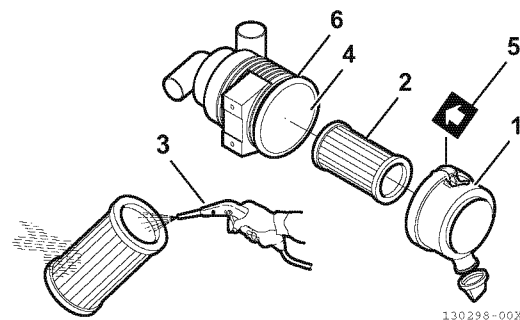
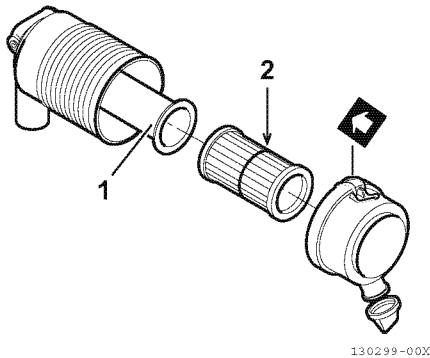

Figure 5-9
Figure 5-10
Note that a typical air cleaner is shown in **Figure 5-9** and **Figure 5-10** for illustrative purposes only.
1. Unlatch and remove the air cleaner cover (1, **Figure 5-9**).
2. Remove the element (2, **Figure 5-9**) (outer element if equipped with two elements).
3. Blow air (3, **Figure 5-9**) through the element from the inside out using 42 - 71 psi (0.29 - 0.49 MPa; 3.0 - 5.0 kgf/cm²) compressed air to remove the particulates. Use the lowest possible air pressure to remove the dust without damaging the element.
4. If the air cleaner is equipped with a double element, only remove and replace the inner element (1, **Figure 5-10**) if the engine lacks power or the dust indicator actuates (if equipped).
8. Install the element into the air cleaner case (4, **Figure 5-9**).
*Note: If there is a red line (2, **Figure 5-10**) in the outer element, reinsert the element until the overlap position of red line and end face of the air cleaner case.*
9. Reinstall the air cleaner cover making sure you match the arrow (5, **Figure 5-9**) on the cover with the arrow on the case (6, **Figure 5-9**).
Replace the air cleaner element (2, **Figure 5-9**) with new YANMAR genuine element every 500 engine operation hours even if there is no damage observed.
When replacing the element, clean the inside of the air cleaner case (4, **Figure 5-9**).
If the air cleaner is equipped with a double element, only remove and replace the inner element (1, **Figure 5-10**) if the engine lacks power or the dust indicator actuates (if equipped). This is in addition to replacing the outer element.